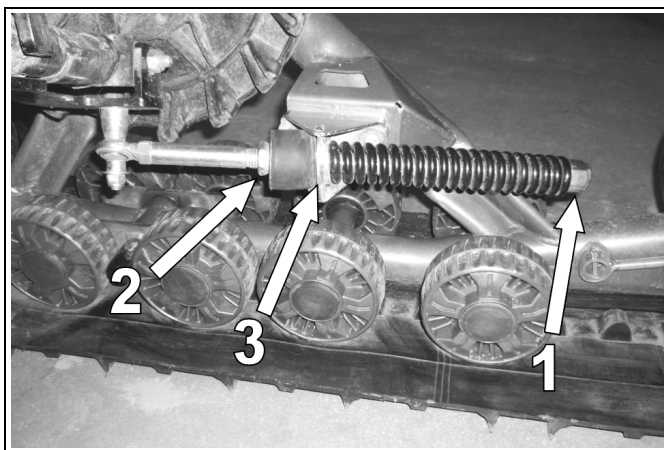

Figure 8
- Loosen the nut (1) compressing the spring of the stabilizing rod (refer to Figure 8).
- Turn the nut (2) until it comes in contact with both rubber damper and bracket (3). Then, compress the rubber damper by turning the nut (2) one turn.
- Turn the nut (1) until it comes in contact with the spring. Then compress the spring by turning this nut 4 turns.